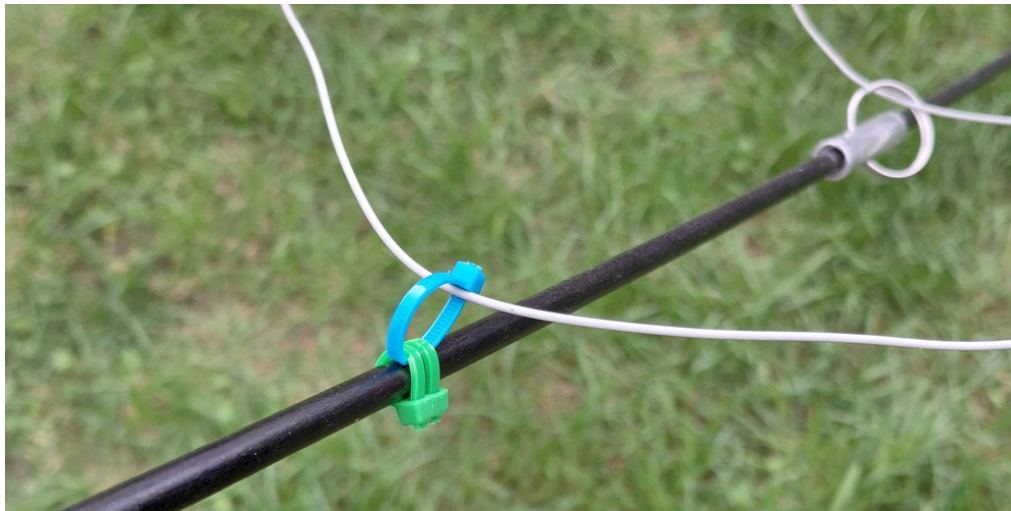

Figure 2
3. **Route Wires:** Thread elements through key rings starting from the tip inward (14 MHz at the tip, 21 MHz next, 28 MHz innermost). Attach terminals to 1:4 Transformer posts and adjust sliding knots (see Fig 2) so tension stays on guy cords, not wires.
- d. Adjust sliding knots so **tension stays on guy cords**, not wires (Fig 2).